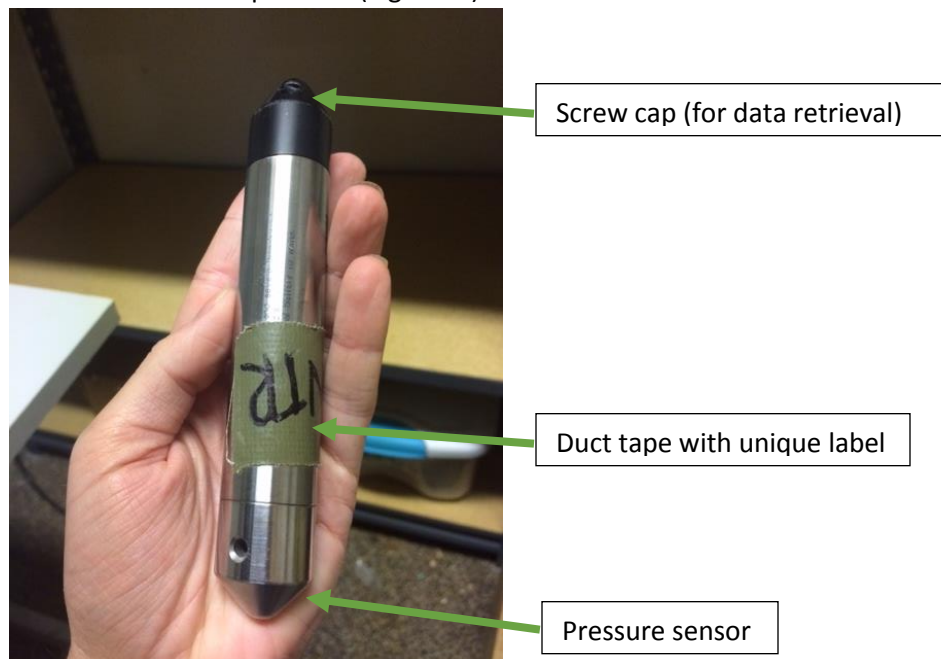

Figure 1. Titanium water level HOBO by Onset®.
- c. Ensure that each HOBO has a unique label (Figure 1.)
- b. Zip ties can go through the HOBO's screw cap, and across the body of the HOBO, but care should be taken to avoid strapping zip ties across the pressure sensor (see Figure 1.).